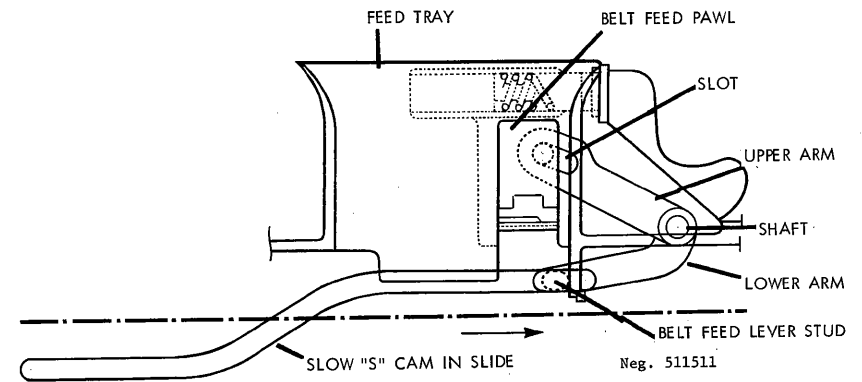

Figure 212. ZB-37 feed mechanism.
c. In the bottom of the slide there is a slow S groove (fig 212). A lug on the lower arm of the belt feed lever rides in this groove, and as the slide reciprocates, the groove moves the lower arm (fig 212) from one side of the receiver to the other. This movement is transmitted to the upper arm of the lever via the shaft of the belt feed lever. This arm is mated to the belt feed slide, and as the lever moves, the slide is given the in-and-out motion necessary to in-feed the belt. A spring-loaded pawl on the belt feed slide allows the pawl to depress and pass under the incoming cartridge as the pawl moves outward. A spring-loaded holding pawl in the cover (fig 209) prevents the outward movement of the belt as the feed pawl moves.